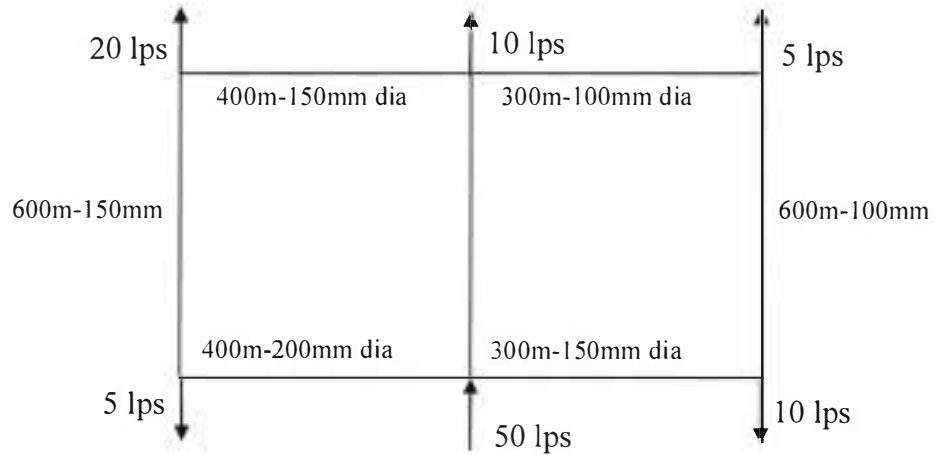

Fig. 1.
- (b) Calculate the corrected flows in the various pipes of the upper loop of the distribution network as shown in following Fig. 1. The diameters and lengths of the pipes used are given against each pipe. One trial is required. [10]